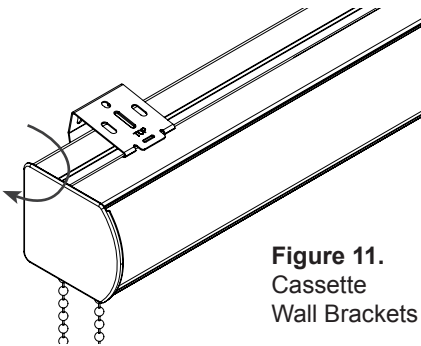

Figure 11.
Step 11. Hook the channel that's on top of the cassette onto the wall bracket as shown in **Figure 11**. Then rotate the entire cassette until it snaps onto the lower hook on the bracket.